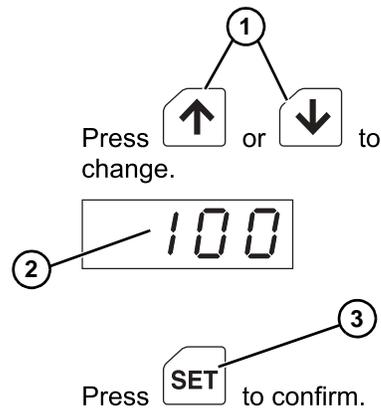

Figure 37
- Press up or down (Figure 37, item 1) to change the conveyor gear ratio (e.g., 100 (Figure 37, item 2)). Pressing and holding the key for 3 seconds or more will increase or decrease the value successively.
- After the gear ratio has been changed, press SET (Figure 37, item 3) to confirm the new setting.